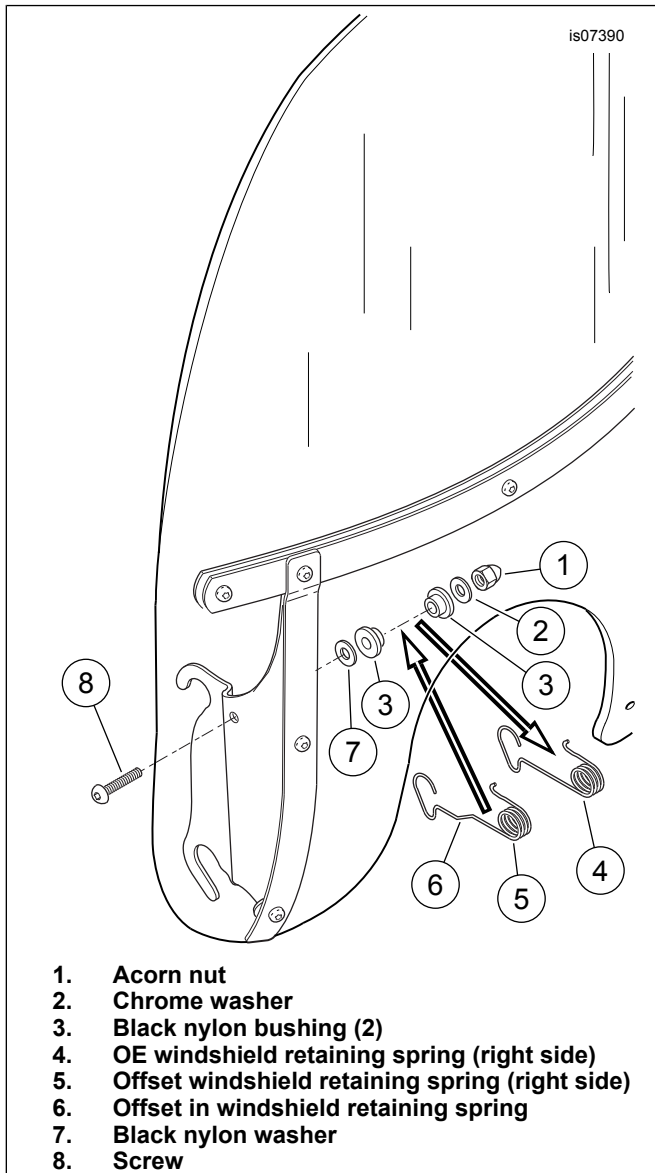

Figure 3. Windshield Modification for Auxiliary Lamp Bracket
- a. See Figure 3. Remove the acorn nut (1), chrome washer (2) and black nylon "top hat" bushing (3) from one windshield mounting bracket. Remove the windshield retaining spring (4). The black nylon washer (7) and the second "top hat" bushing (3) can remain in position on the screw (8) threads.
- b. Get the correct **new** offset windshield retaining spring (5) from the kit. Install the spring onto the screw threads, between the bushings (3).